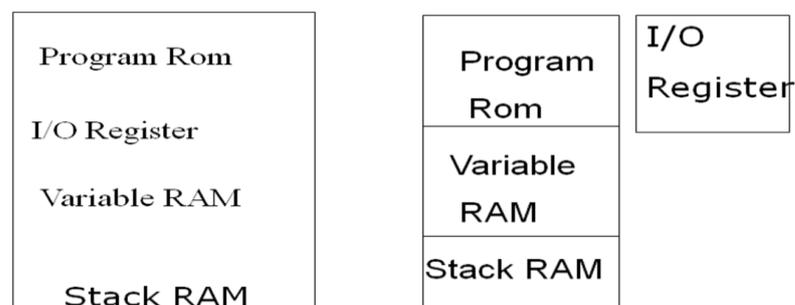
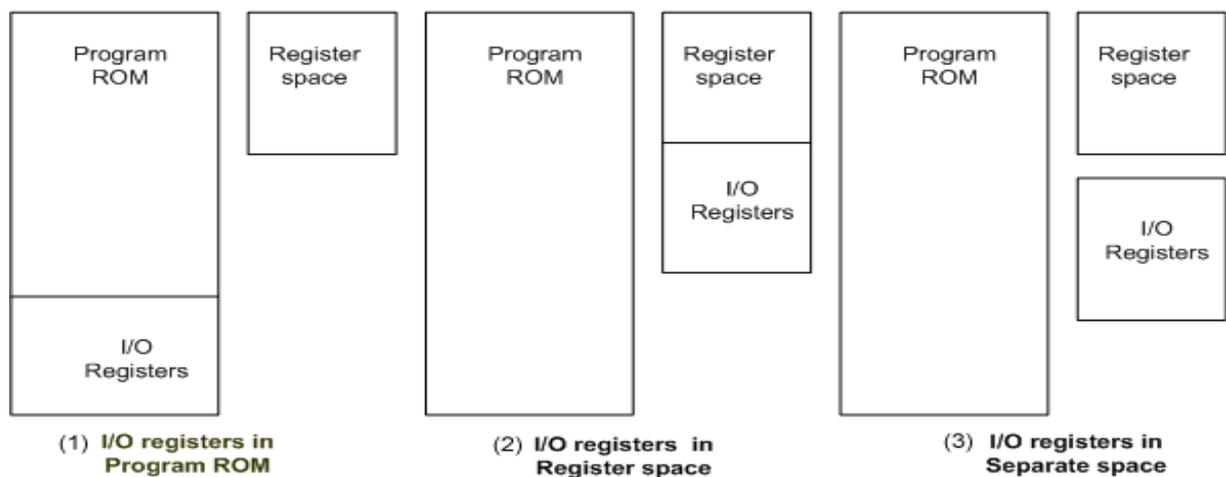
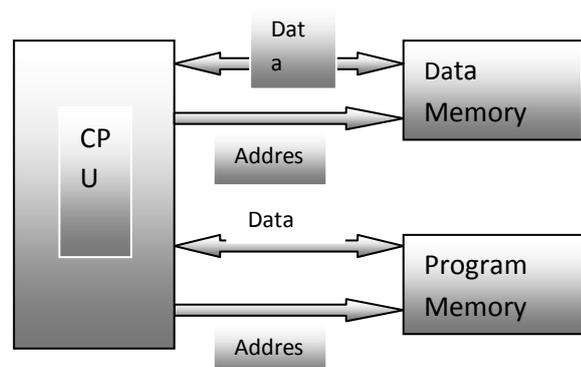

Fig 4. Input/Output Registers in Princeton Architecture
Fig. 5. Organization of I/O registers in Harvard Architecture
Fig6. Harvard Architecture
In a microprocessor, input /output (I/O) devices are externally interfaced and are mapped either to memory address (memory mapped I/O) or a separate I/O address space (I/O mapped I/O). There are two possible architectures one is Princeton (Von Neumann) and another is Harvard .I/O Registers space in Princeton architecture have only one memory interface for program memory (ROM) and data memory (RAM). One option is to map the I/O Register as a part of data memory or variable RAM area (memory mapped I/O). Alternatively a separate I/O register space can be assigned (I/O Mapped I/O) . Both the arrangements are shown in Fig.4.
As shown in Fig 4. Program memory and Data memory are together in both the arrangements. The Princeton or Von neumann architecture one bus is used to carry the address and data with an appropriate multiplexing technique ,which in turn reduces the cost. But Harvard architecture which 8051 employs has separate Data memory and separate Code or Program memory . The Fig. 5 and Fig .6 show the need for separate address and data bus for each Program and Data memory in Harvard architecture. Since there are separate bus for access the operation of fetching the code and data can happen simultaneously which increases the speed of operation of execution inside CPU.
In Fig. 5 , the first option is difficult to implement as there is no means to write to program ROM area. It is also complicated to have a separate I/O space as shown in (3). Hence the second option where I/O registers are placed in the register space is widely used in Harvard architecture.